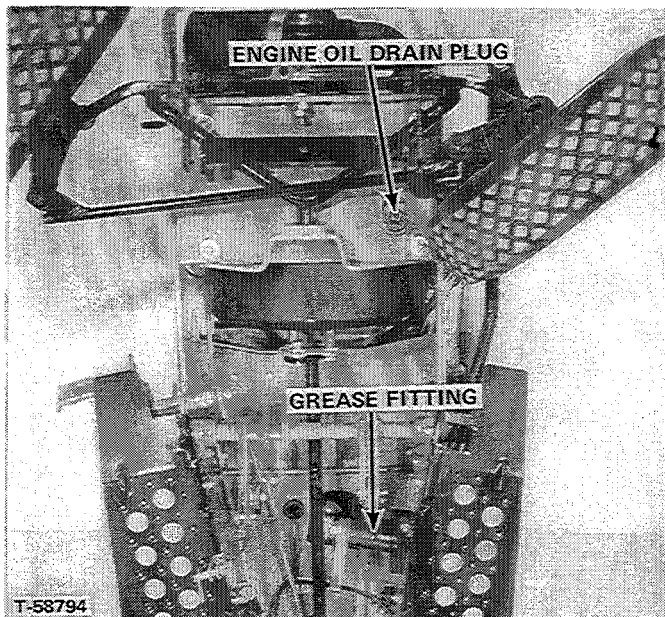

FIGURE 9 - View from Under Tractor
To change oil, have engine hot, clean any dust or dirt from around oil fill tube and remove the dipstick. Then remove the oil drain plug (See Figure 9) and permit all oil to drain out. Replace drain plug and fill the crankcase up to the "F" mark on dipstick with a high quality detergent oil classified "SC", "SD" or "CC" service of proper viscosity for the prevailing temperature. DO NOT OVERFILL.
- 1 fitting on steering gear under tractor (Figure 9)